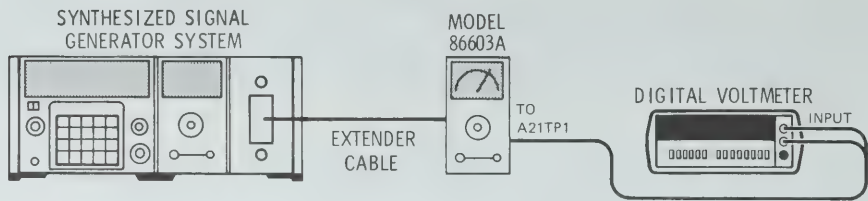

Figure 5-5. Filter Driver Assembly Adjustment Test Setup
2. Connect the equipment as shown in Figure 5-5.